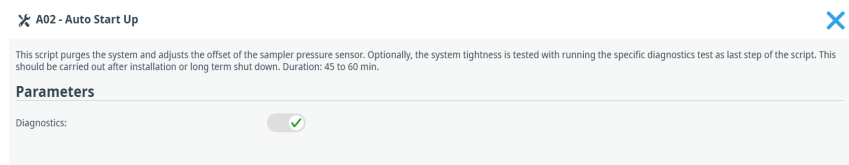

Figure 23: Dialogue box for script A02 showing the diagnostics set to “on”
- Toggle the Diagnostics to “on” (see Figure 23) and click “Apply” to execute (duration 45 – 60 minutes)